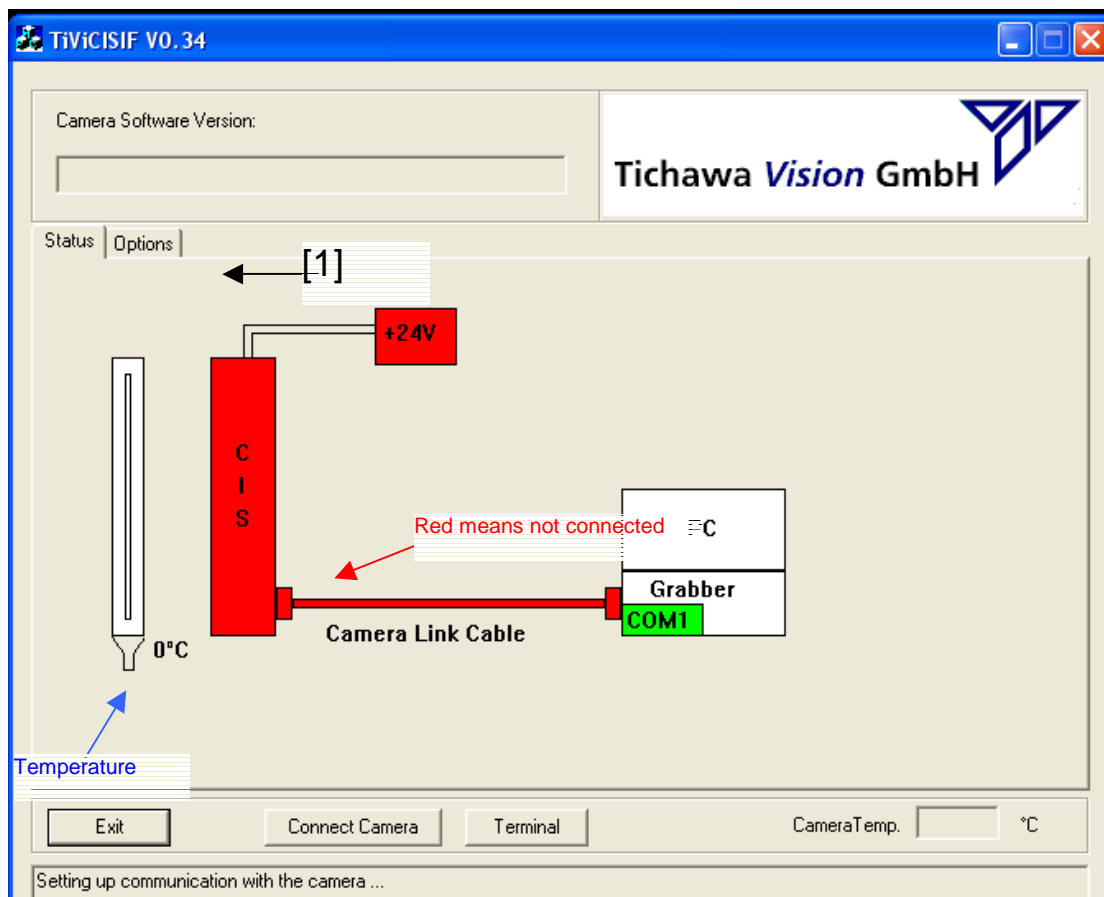
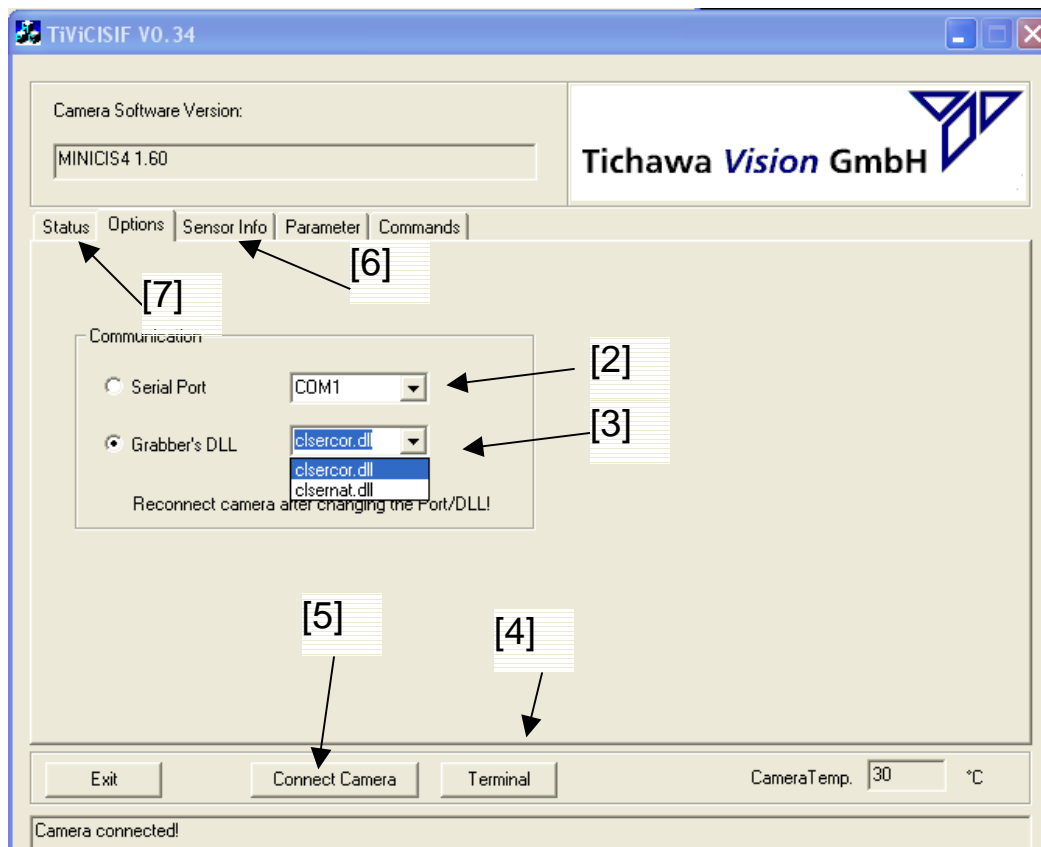

Figure 1 – Status
Figure 2 – Options
- b) go to the menu options **[1] (figure 1)**
- I. serial communication over an COM port [2] (figure 2)
- II. serial communication over the grabber dll file [3] (figure 2)
- e) after you chose the communication type connect the camera [4] (figure 2)
- f) if the communication was right the software will show "camera connected" [5] (figure 2) and open more menus. If you go back to the status menu the red parts will be green now [7] (figure 2) , (figure 1)
- h) To check the hardware parameters of the CIS go to the menu "sensor info" [6] (figure 2)